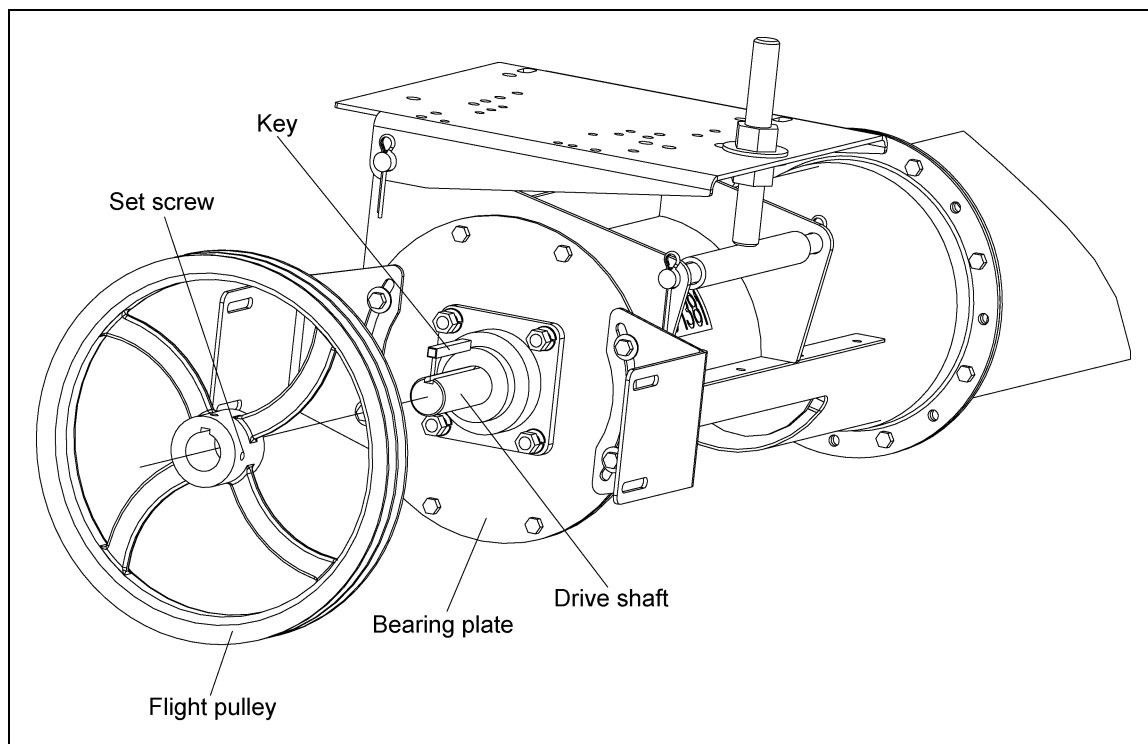

Figure 40
- C. Once the pulley is appropriately positioned, tighten the set screw with a hex head wrench to secure it to the drive shaft. (See Figure 40.)